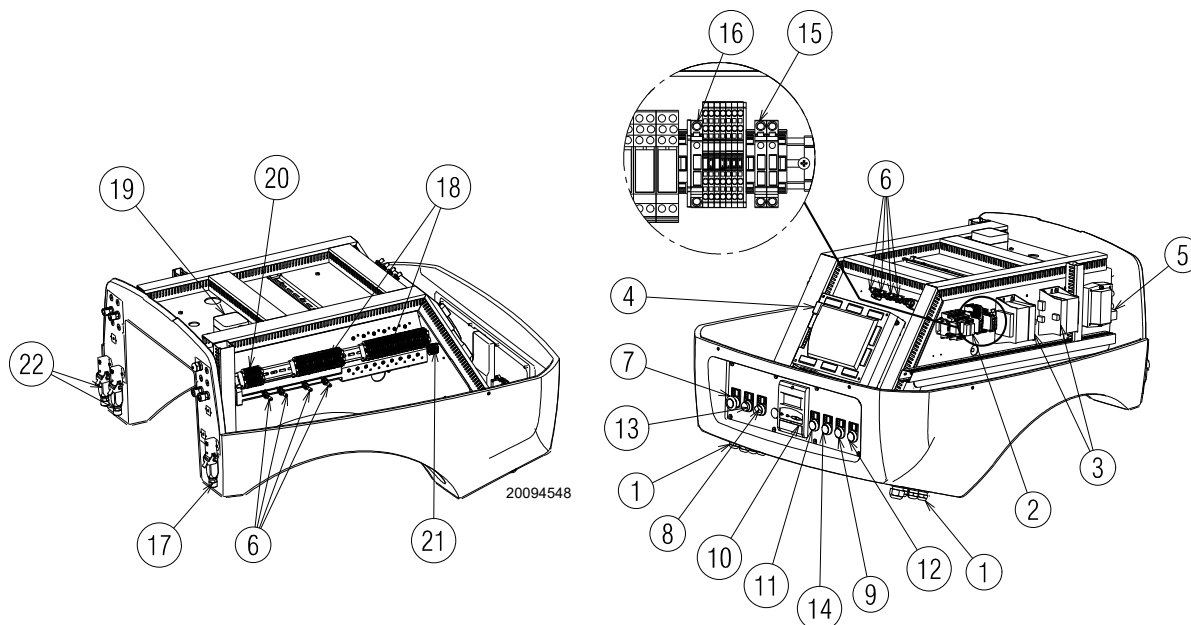

Fig. 6
- **Control box lockout:** switching on of button 13)(Fig. 6) (**red led**) signals that the burner is in lockout. release by pressing the pushbutton 13)(Fig. 6).